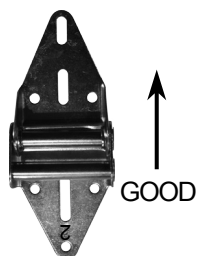

FIGURE 4.1
**4.2.B** Install the three hinges #2 (Q). The #2 hinges should be installed so that the number is upside down when you're facing the panel (Figure 4.1). The part with the number should be screwed on the 2nd panel. The top part of the hinge will be screwed on the next panel at the end of step 4.